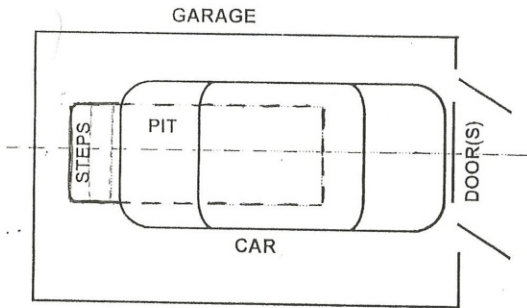

FIG 1. Ideally locate the Pit allowing full length of vehicle inside garage with garage doors shut and sufficient safe access in and out of pit via steps.
3. Mark out motor pit hole to be cut. (fig 1) For normal use it is recommended that the motor pit steps are at the back wall end of the garage enabling easy access under any length of vehicle either placed forwards or backwards into the garage, with the garage doors closed.
The motor pit moulding can be concreted in after the floor slab is laid - having concreted up to a timber box frame of the concrete aperture size. (see fig.1)